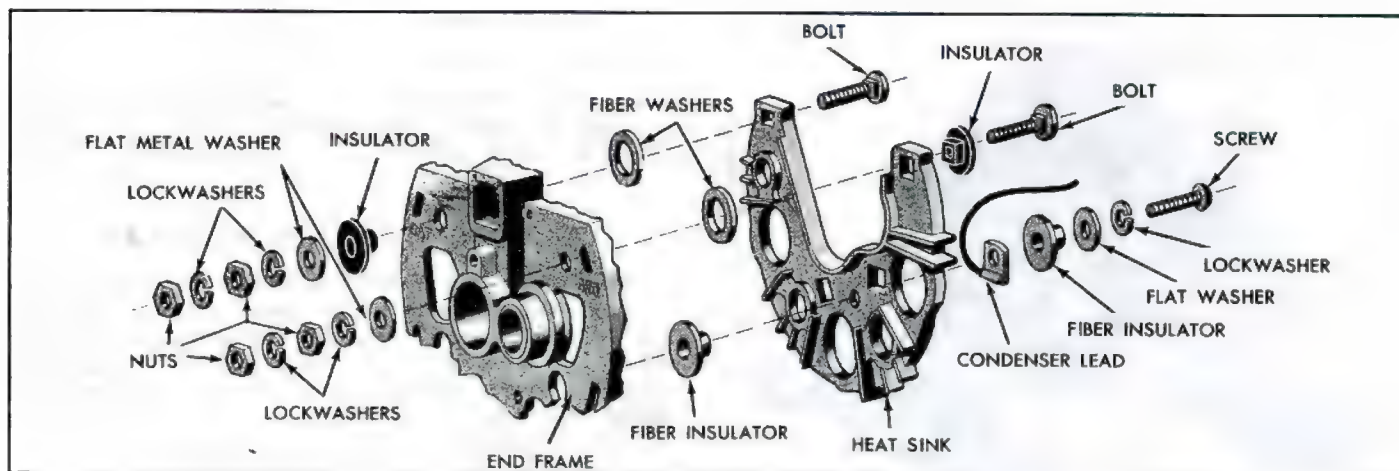

Fig. 20c—Heat Sink—Parts Location
7. Remove heat sink from end frame by removing "batt" and "grd" terminals and one attaching screw (fig. 20c).
1. Detach heat sink from end frame by removing the two terminal bolts. Note carefully the proper stack-up of parts so that the "BAT" and "GRD" terminal bolts can be reassembled in the same manner (fig. 20c).